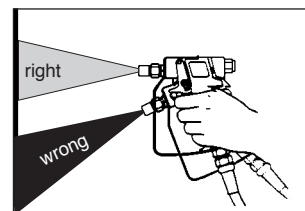

Fig. 18: Spray angle
- Hold the spray gun at right angles (90°) to the area to be coated. If the spray gun is held under a different angle, the coating becomes irregular and blotchy (see Fig. 18).